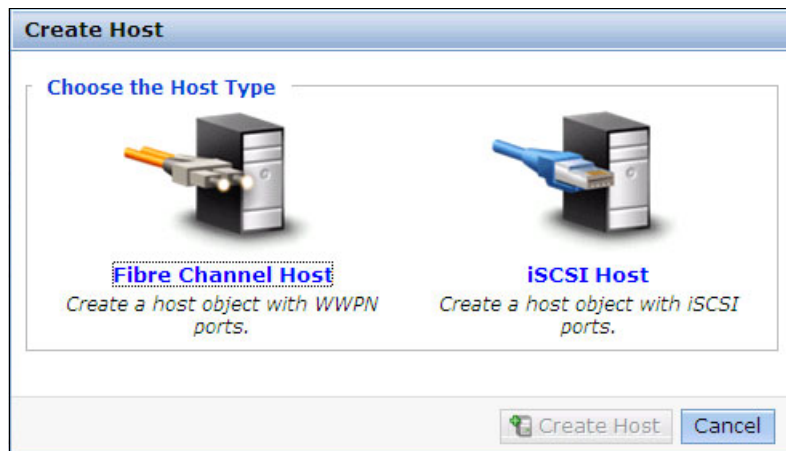

Figure 9-43 Creating the Fibre Channel host
3. Click **Create Host**, then click **Fibre Channel Host** as shown in Figure 9-43.